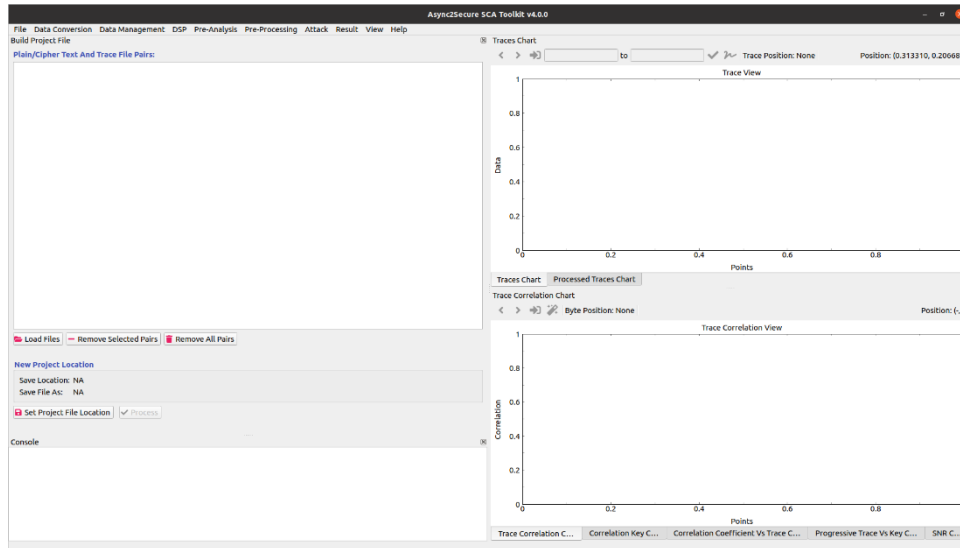

Figure 12: Building a project file
- From the Menu, go to *'Data Management' > 'Build Project File'* as shown in Figure 12. Click *'Load Files'*.